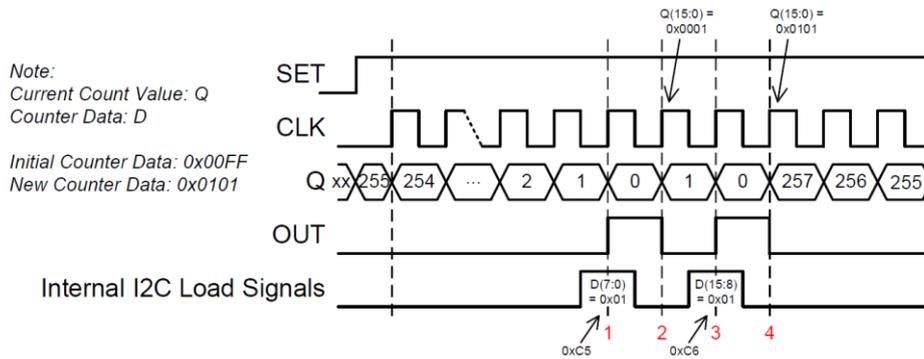

Figure 10. I2C Write of 16-Bit Counter Data Example
The timing diagram in Figure 10 sets up a case where an improper output will be seen on the counter. In this example, the initial Counter Data value (D) is set up as 0x00FF. As you can see, the Current Count Value (Q) decrements from 255 down to 0 with rising edges on CLK. At time "1" denoted by a red number 1, an I2C command (not shown) has just been sent to the GreenPAK device to reconfigure the Counter Data value to 0x0101.